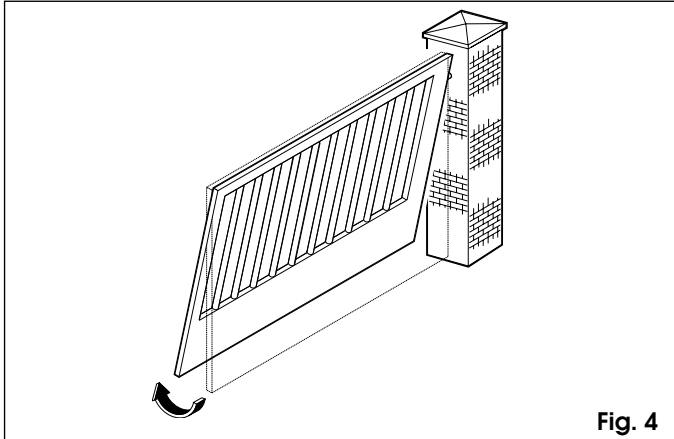

Fig. 4
- Swing the leaf around the axis of the top hinge (fig. 4).